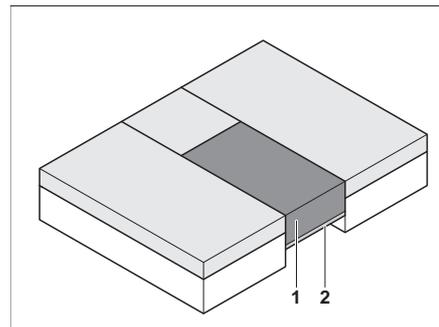

Fig. 84 After conversion
- Place the additional cushion (Fig. 84,1) on the extended slatted frame (Fig. 84,2).